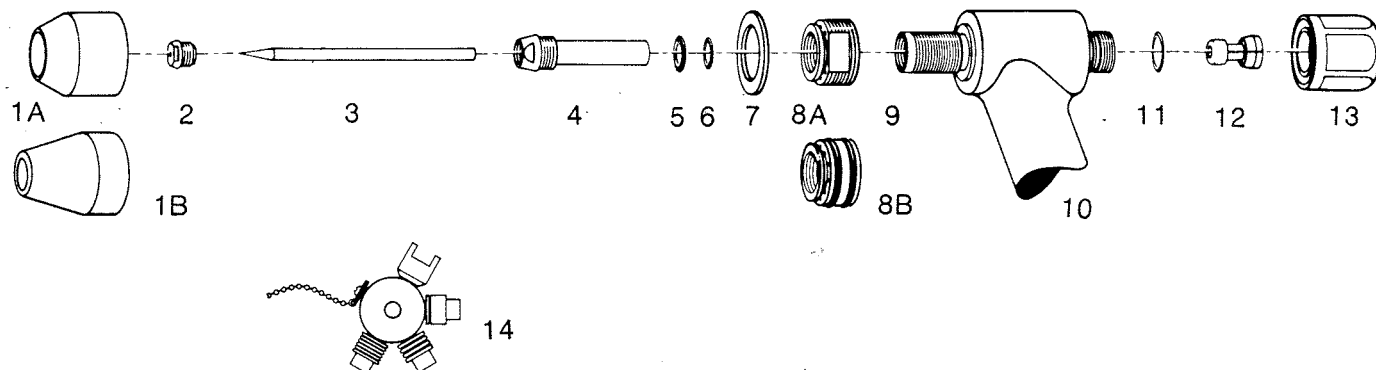

Figure 5-2 4A Torch Explosion
- Fig. 5-2 PWH/M-4A Torch Assembly